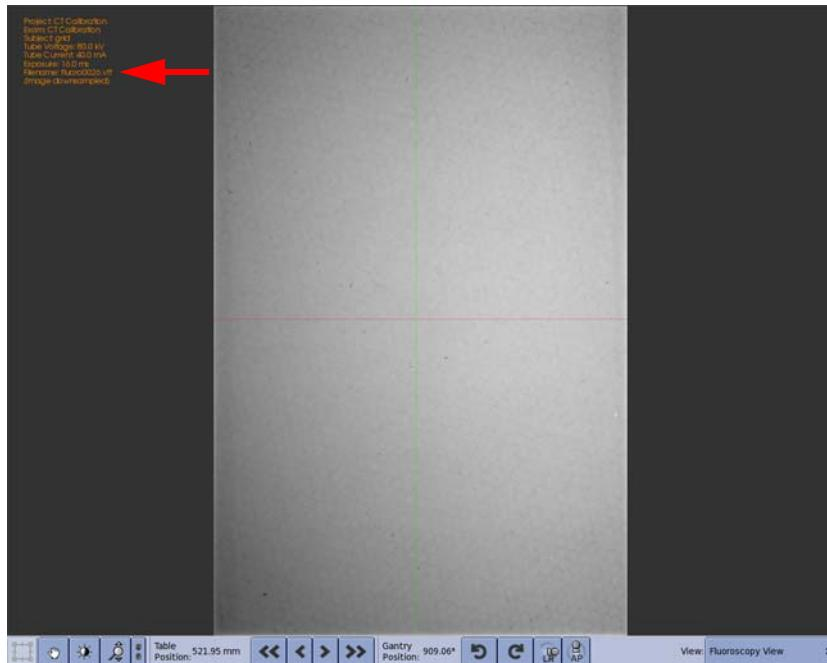

Figure 7-70
- 12.) When an acceptable image is obtained find the .vff file generated in fluoro next to "Filename" on the right hand Console screen (arrow in Figure 7-70).
- 13.) Navigate on the CT computer to C:\Inukshuk\data\fluoro and double click on the file name found in Figure 7-70 to open MicroView.